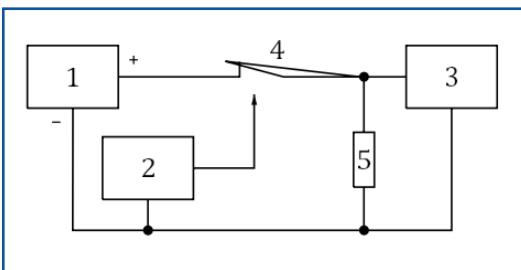

Figure 9 — Test set up for micro interruption with 12/24 V nominal voltage (UN)
- To verify the switch reaction time, two reference measurements shall be performed and documented with the test setup given in Figure 9. In the first reference measurement, the DUT is replaced with a  $1\text{ k}\Omega$  resistor, and in the second measurement, the DUT is replaced with a  $10\text{ }\Omega$  resistor. The reference measurements enable the reaction time of the switch to be verified as acceptable before the full test is performed. The resistors used shall, therefore, have low inductance. Acceptable reaction time for the switch shall be  $\leq 10\text{ }\mu\text{s}$ .